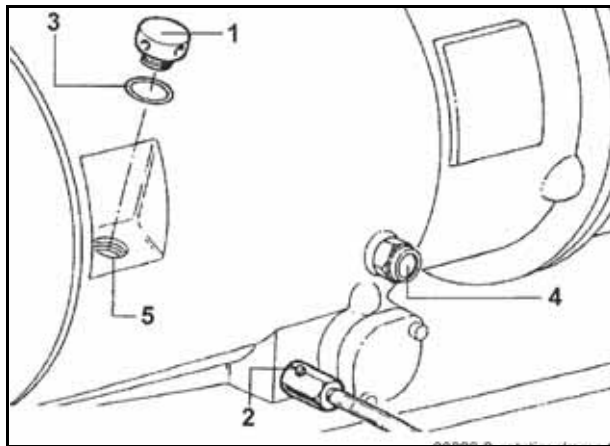

Fig. 349 Maintenance openings on compressor
- The sight glass **(4)** can be used to check the oil level (**Fig. 349**).
- Carefully open the filler plug **(1)** (**Fig. 349**) to equalise the pressure.